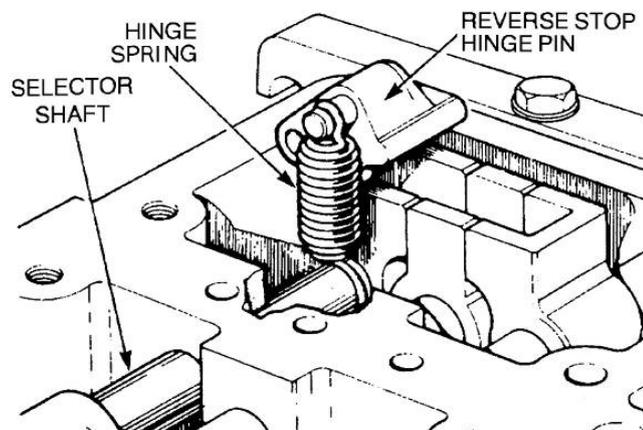

Figure 202 Installation of the Reverse Hinge Spring
- jjj. Ensure the cross-over lever pivot bolt is secure and lockwire it to the side cover bolt. Connect the small hinge spring hook to the reverse stop hinge pin (Figure 202).